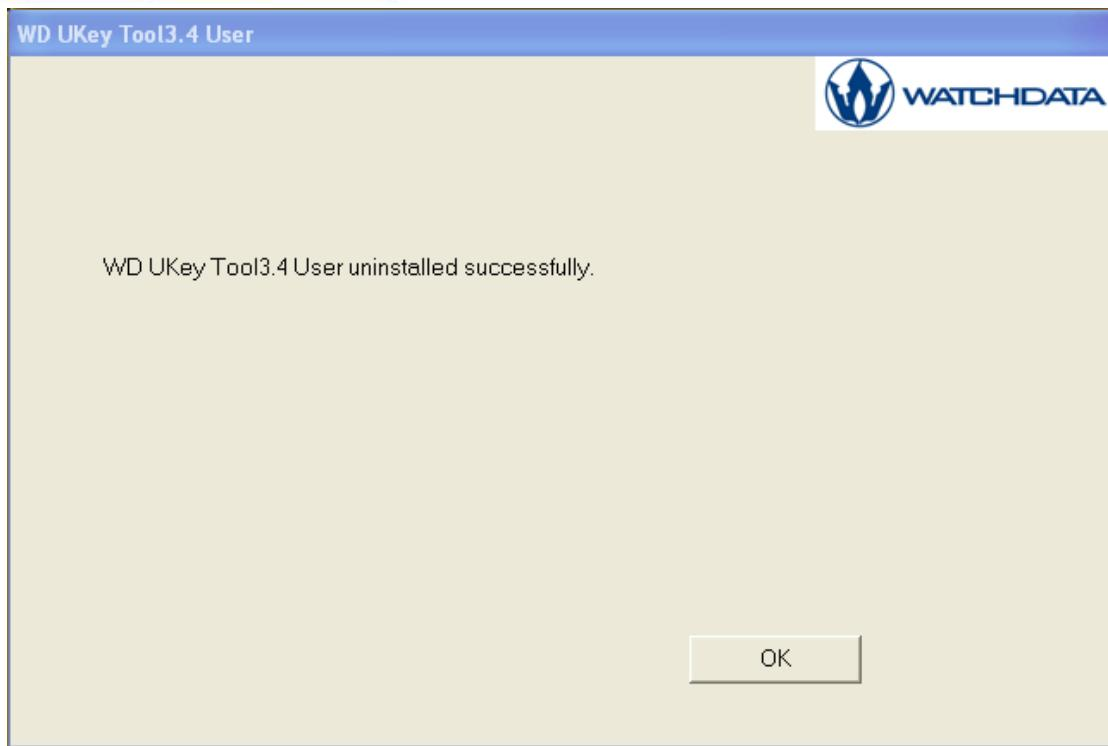

Figure 2.2.2 Complete uninstalled
Step2: click the 'Uninstall' button, then a new window like figure 2.2.2 will come out. Click the 'OK' button to finish uninstall operation.